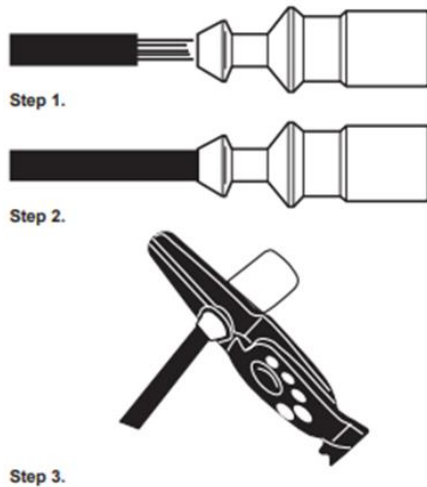

Figure 21: HHB Fuse Holder Installation
3. Crimp terminal through body. The recommended crimp pressure range is 160 MPa ~ 210 MPa, the preferred pressure is 180 MP. See **Figure 21: HHB Fuse Holder Installation**
5. Repeat steps 1-3 for other half of the holder. See **Figure 21: HHB Fuse Holder Installation**